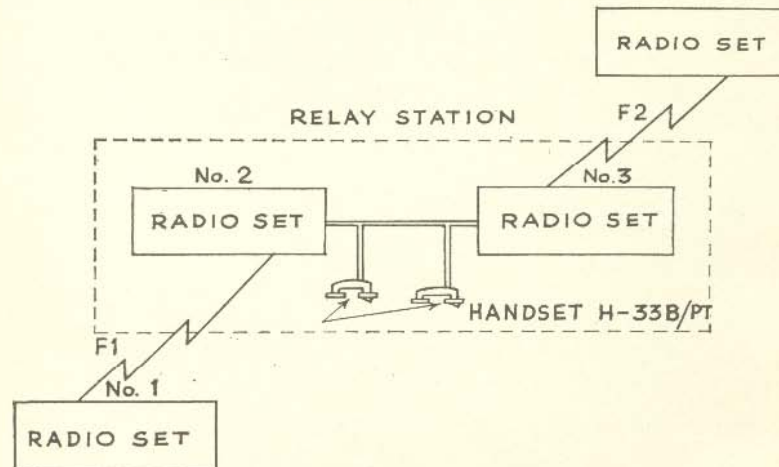

Figure 8 - Relay Operation
59. Figure 8 shows how two AN PRC 10s operate as a relay station. Set No. 2 is tuned to the same frequency as Set No. 1, while Set No. 3 is tuned to the same frequency as Set No. 4. The frequency of Sets No. 1 and 2 must differ from the frequency of Sets No. 3 and 4 by several mcs. Be careful, if possible, not to have the frequencies differing by 3.8 to 4.1 mc/s, as difficulty may be experienced in getting stable operations at the relay station.